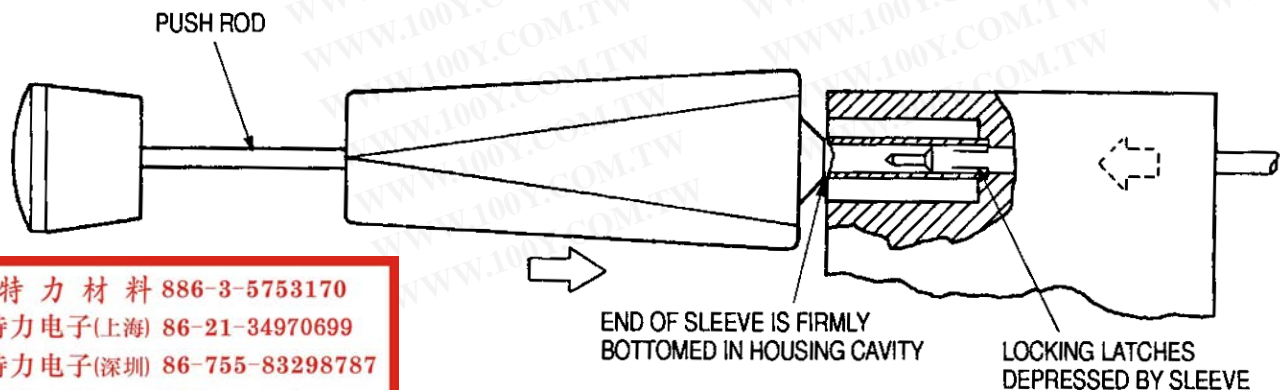

Figure 2
1. Place sleeve of tool over contact to be removed, and at the same time, grasp wire of contact. Push contact toward mating face of connector and hold in this position. This will disengage contact locking lance from shoulder of cavity. See Figure 2, Detail A.
2. While holding wire, insert sleeve straight into the contact cavity until it bottoms. Allow the push rod button to back out of the handle as shown in Figure 2, Detail B.